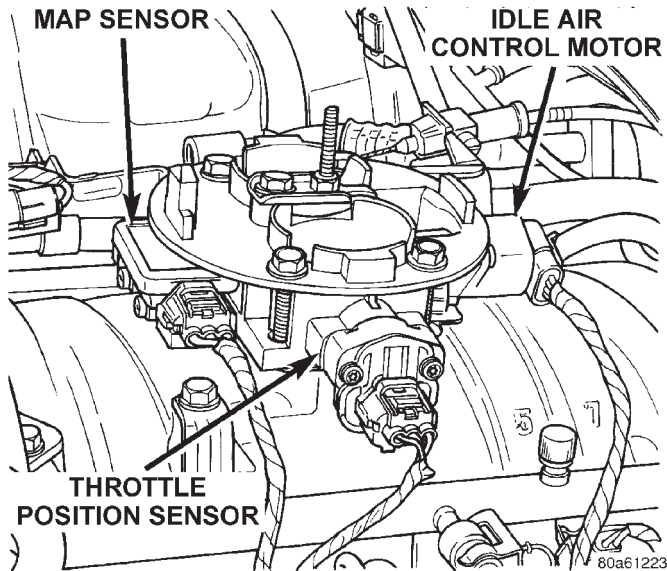

Fig. 38 Sensor Electrical Connectors—3.9/5.2/5.9L Engines—Typical
- (1) Remove the air duct at throttle body.
- (2) Disconnect throttle body electrical connectors at MAP sensor, IAC motor and TPS (Fig. 38).
- (3) Remove vacuum line at throttle body.
- (4) Remove all control cables from throttle body (lever) arm. Refer to the Accelerator Pedal and Throttle Cable section of this group for additional information.